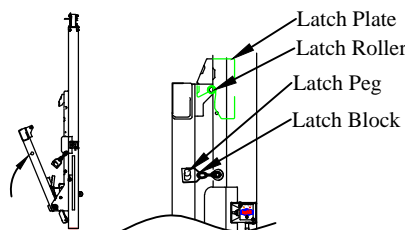

Figure 9: Steps 11 & 12.
- Step 11. Continue holding the self-close arm in the engaged position while raising the platform. After the platform begins to fold, release the handle of the self-close arm and step away from the lift. Continue raising the platform until the platform latch rollers drive up into the latch plates (Figure 9).
- Step 12. Hook the Latch Block securely back onto the Latch Peg on the platform (Figure 9).